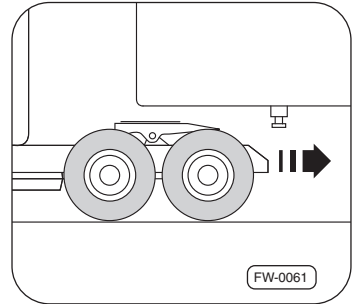

Fig. 14 · Driving the tractor under the trailer
7. With the tractor under the trailer, drive until the fifth wheel is approx. 50 cm in front of the fifth wheel kingpin ⇒ Fig. 14.